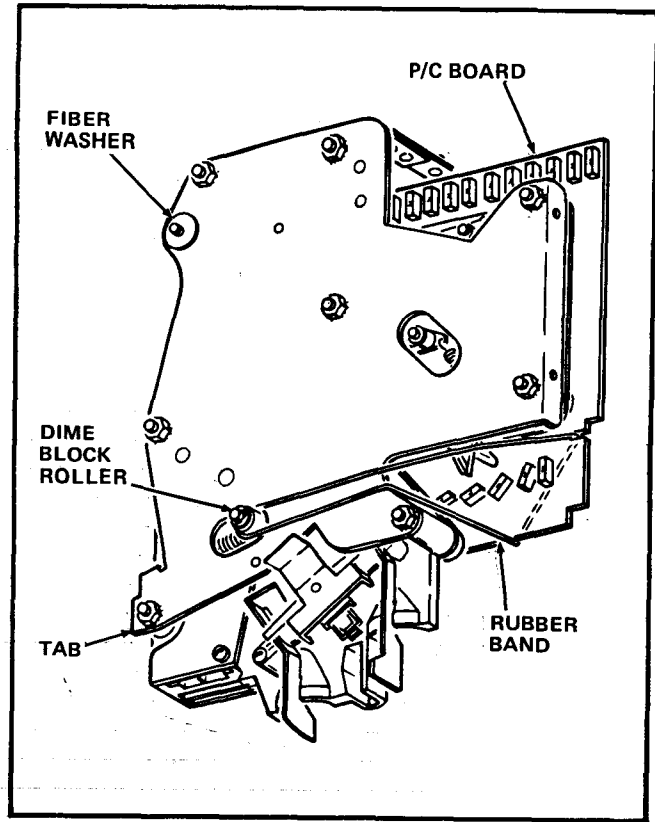

FIGURE 8
3. Attach a rubber band around the Dime Block Roller and onto the Printed Circuit Board Recorder Unit Assembly, as shown in Figure 8.
5. Check to be sure the Fiber Washer is on the Screw at the top right hand corner of the Recorder Unit Assembly. See Figure 8. Do not install the Recorder Unit Assembly without this washer in place. Absence of the Washer will prevent the correct alignment of the Slug Rejector and the Recorder Unit Assembly.
8. Lower the Recorder Unit Assembly into place in the Rear Plate Assembly. The Tab at the right bottom of the Recorder Unit Assembly, (See Figure 8) must fit into the Slot in the right side wall of the Rear Plate Assembly.